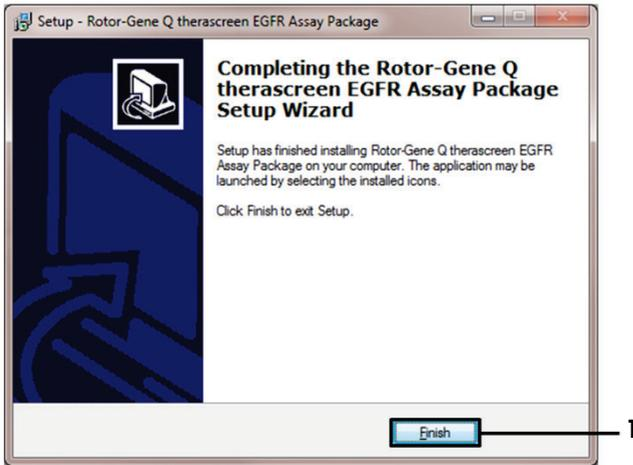

Figure 43. Completing the setup wizard (1 = “Finish”).
8. After the installation is complete, click **Finish** in the final Setup Wizard dialog box (Figure 43).